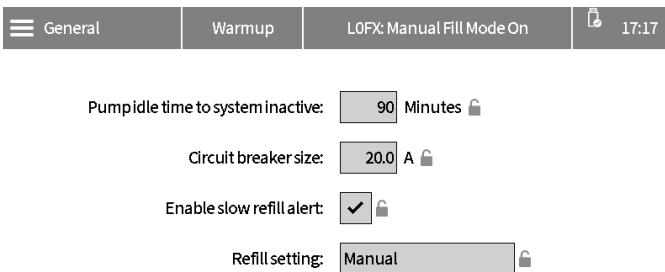

FIG. 26: Manual Refill Settings
1. Change the refill setting to Manual on the ADM. See FIG. 26.
- a. Decrease pump air pressure (505) to 0.
- b. Close the bleed-type air valve (62).
3. Set the refill setting to **Manual**. See FIG. 26.